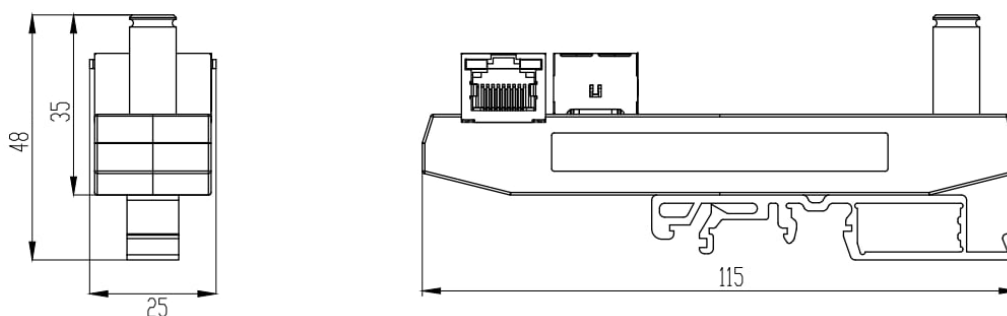

Figure 1.2. ITS dimensions
1.2.4 Technical drawings of ITS devices are in the figure 1.2